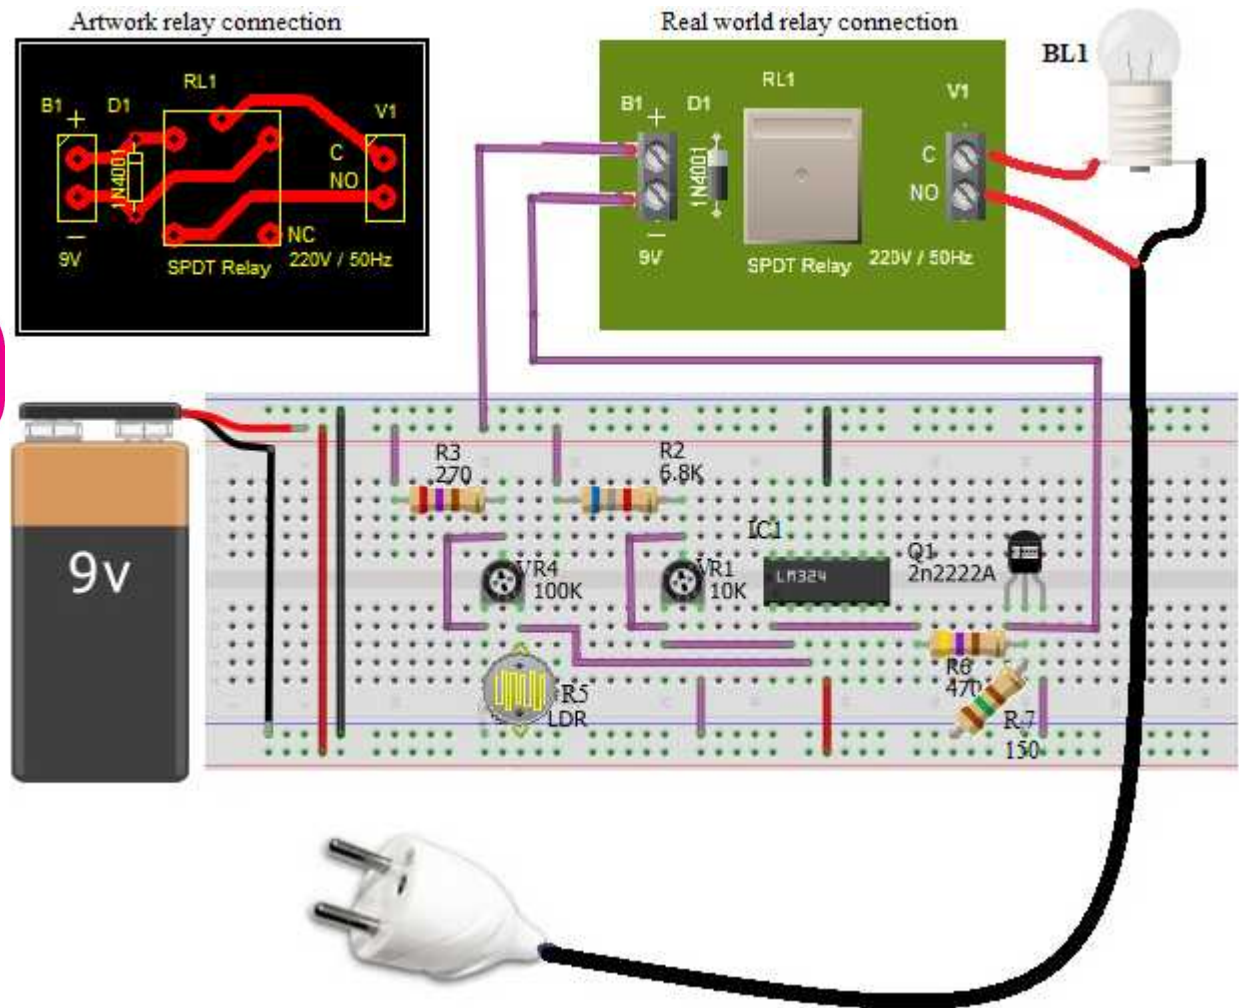

Figure 7-22: Dark (smoke) detector circuit connection (non-inverting op-amp)
1. Connect the circuit as illustrated in figure 7-22. Wire the positive terminal of the battery to power bus of breadboard and negative terminal of the battery to ground bus of breadboard.